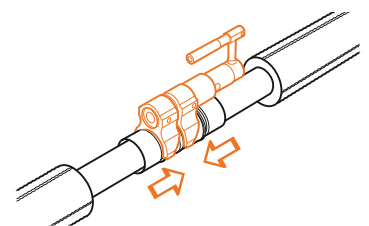

Fig. B10.3.8
11. Using the pump, press the outer sleeve until it is snug with the inner coupler (Fig. B10.3.8). During pressing process, please ensure that the inner coupler is firmly located inside the pipe without displacement.